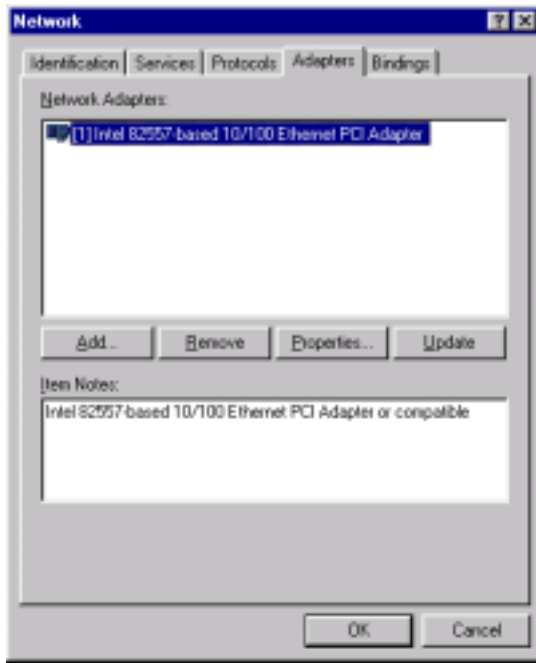

Figure 2-16. Network Window - Adapters
- [] 2. Double click on the **Network** icon. The **Network** window is displayed, with the **Identification** tab in front. Click on the **Adapters** tab (*Figure 2-16*). The following Adapter list is displayed.